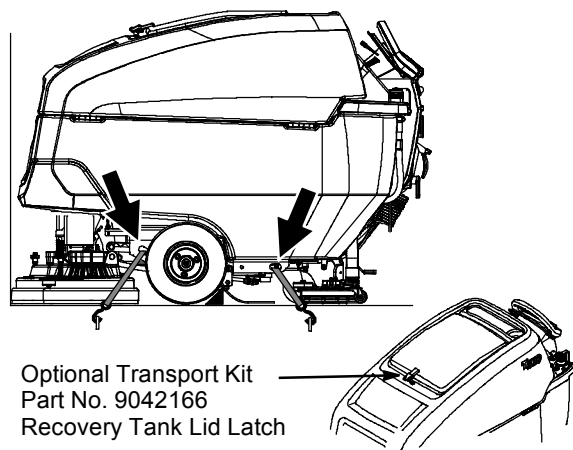

FIG. 156
4. Place a block behind each wheel (Figure 156).
5. Using tie-down straps, secure the machine using the four tie-down brackets located on the machine frame (Figure 156). It may be necessary to install tie-down brackets to the floor of your trailer or truck.